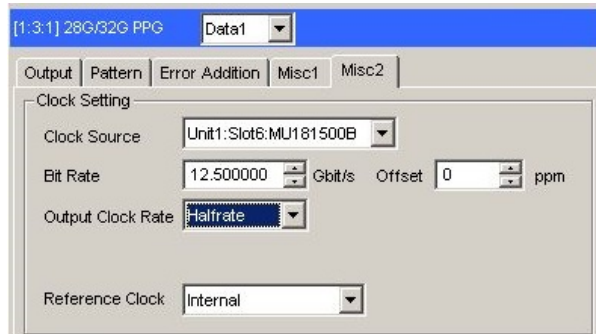

Figure F.5-2 Output Clock Rate Setting on the Misc2 Tab of MU183020A
- 3, 4. Use coaxial cables (applicable part, 0.8 m, K connector) to connect MU183020A's **Data Output1** and **Data Output2** connectors respectively with the **Data Input** connector of each MP1825B No.1 and 2. Then, on the **Misc2** tab of MU183020A, select **Halfrate** in the **Output Clock Rate** box. (Figure F.5-2)